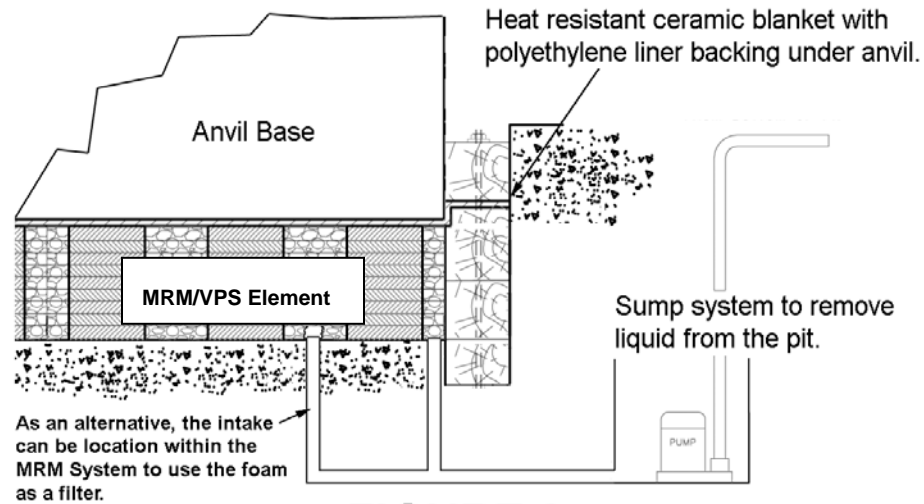

FIGURE 3
7. For foundation designs **not using backfill**, see Figure 3 for foundation guidelines.